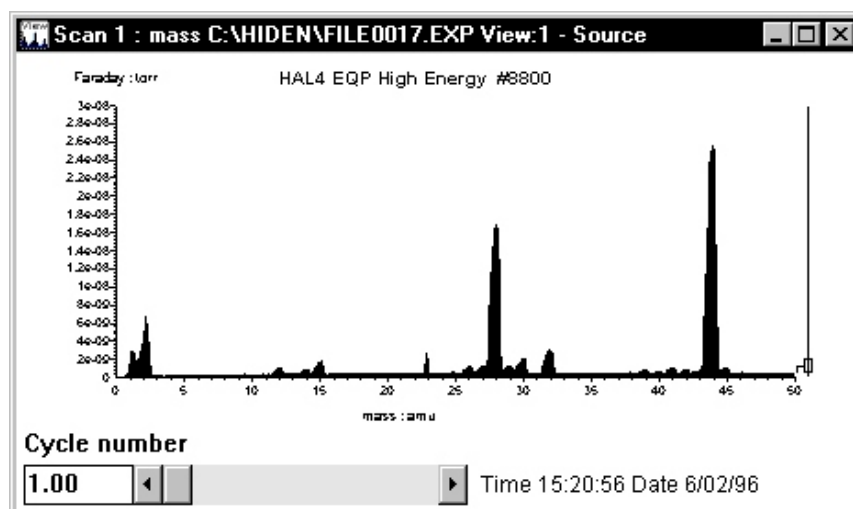

Figure 7.15 Example "source" view
2. Click **Source view** on the **Views** menu. The selected view becomes the “source” view, see Figure 7.15 or an example graphical view.